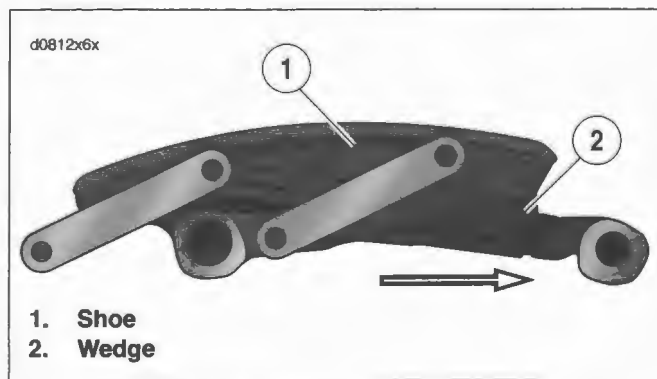

Figure 6-22. Primary Chain Tensioner
12. See Figure 6-22. Slide wedge (2) of primary chain tensioner in direction of arrow until all travel is removed.
13. Push shoe (1) down until it contacts wedge. Keep tension on shoe so wedge stays in place.